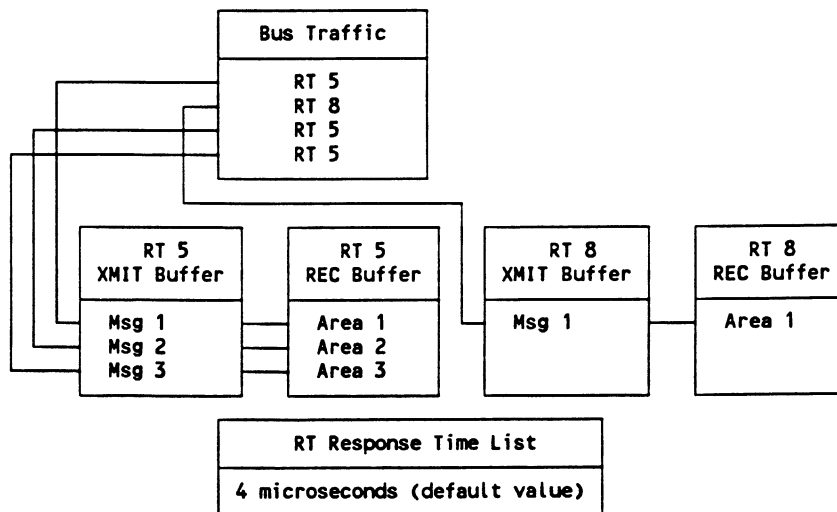

Figure 453-4: RT Simulator Example
Figure 453-4 is a simplified memory map to aid in understanding the operation of the 53A-453 Card in the following example. The block at the top of the figure defines the order in which the bus controller will send messages to the 53A-453 Card in this example.
- 1) The first message received by the 53A-453 Card (message 1) is decoded and found to be a transmit command to RT 5. The received message is therefore a single command word, and is stored in RT 5's receive buffer (Area 1 in Figure 453-4).